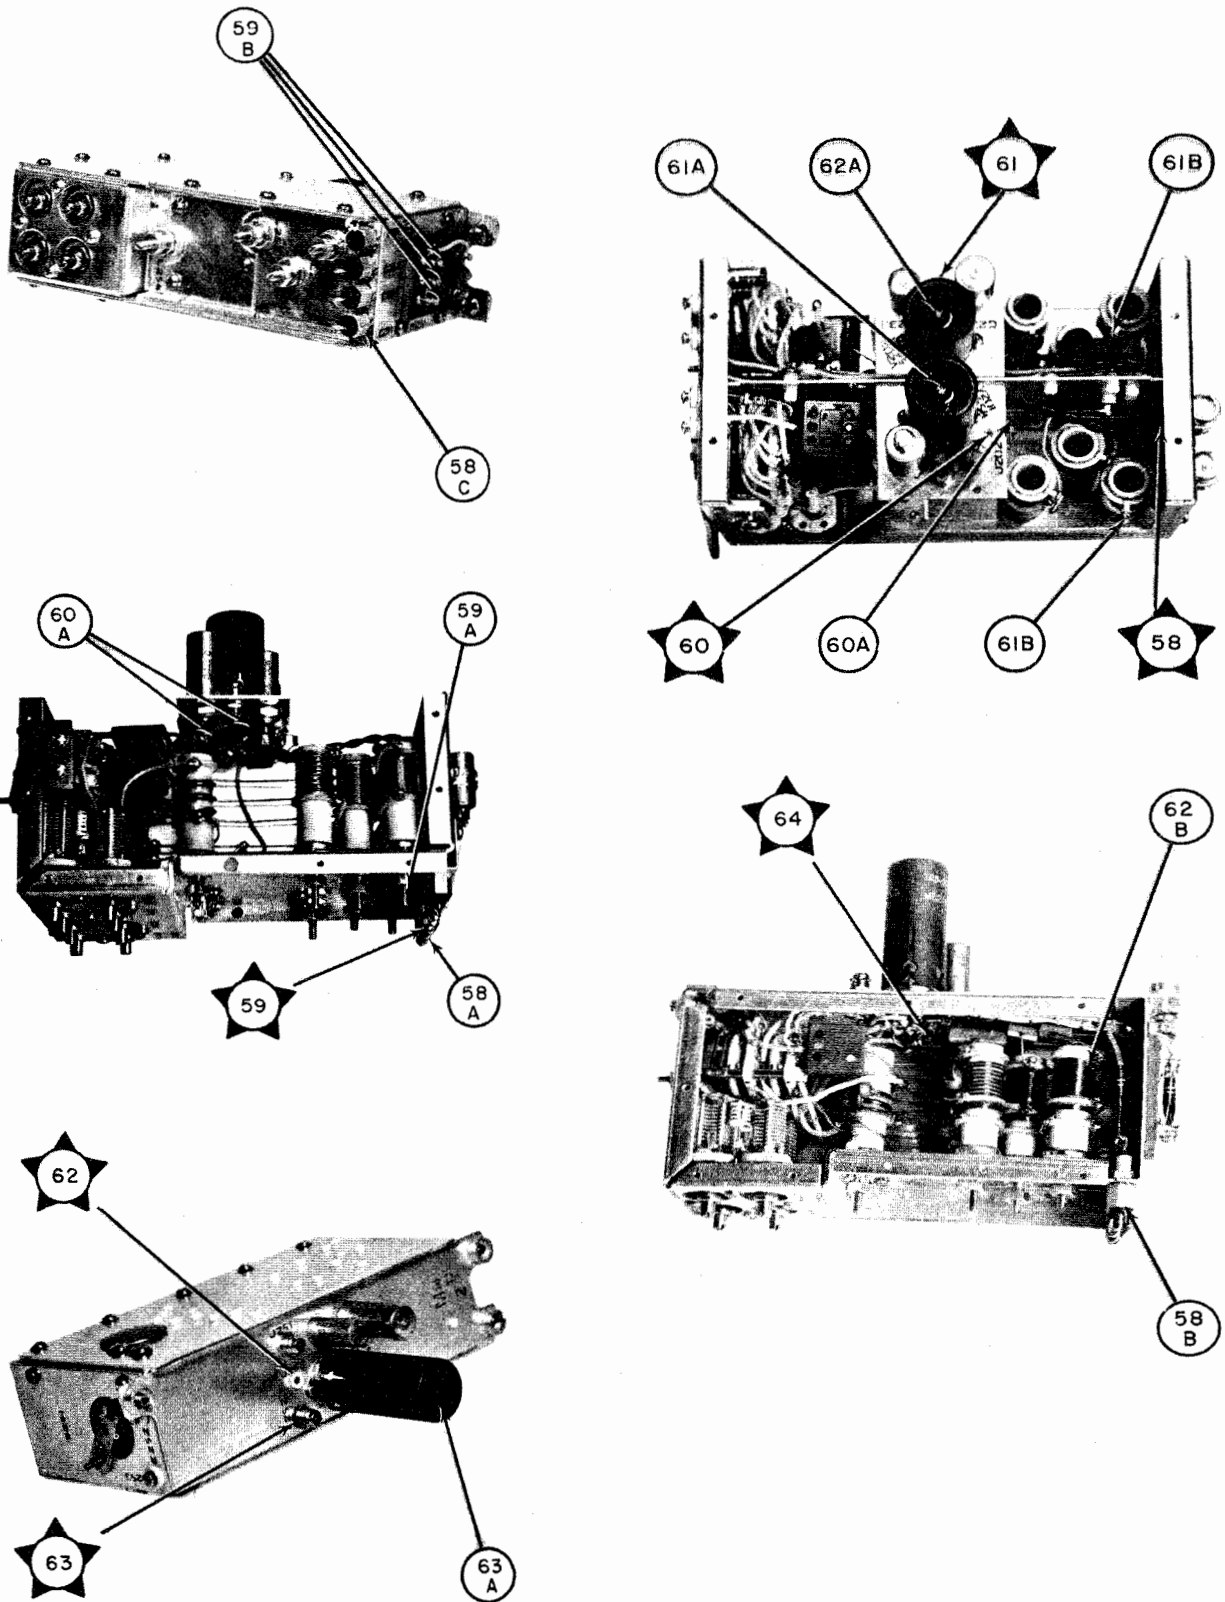

Figure 5-40. Harmonic Amplifier, Location of Test Points
- (1) Seating of tubes V201, V202, and V251 in their sockets
- (2) Cable connections at J201, J251 and J252
- (3) All soldered connections at chassis feed-through terminals.
f. HARMONIC AMPLIFIER TROUBLE-SHOOTING CHART.—Table 5-15 is the trouble-shooting chart for the harmonic amplifier. Perform each step in the order presented. Compare the result with information in the NORMAL INDICATION column and then follow the instructions in the NEXT STEP column. Figure 5-40 shows the location of test points. Table 5-16 gives voltage and resistance measurements at the tube sockets.